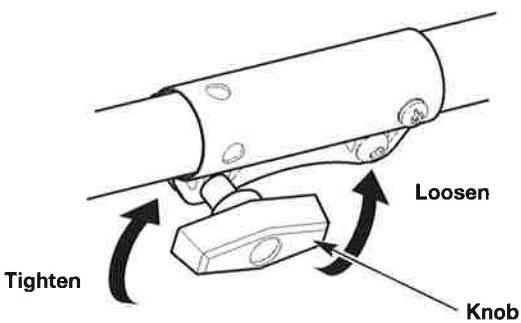

Fig. 8
3. Turn the knob counterclockwise to loosen the coupler (Fig. 8).
6. Turn the knob clockwise to tighten the coupler (Fig. 8).